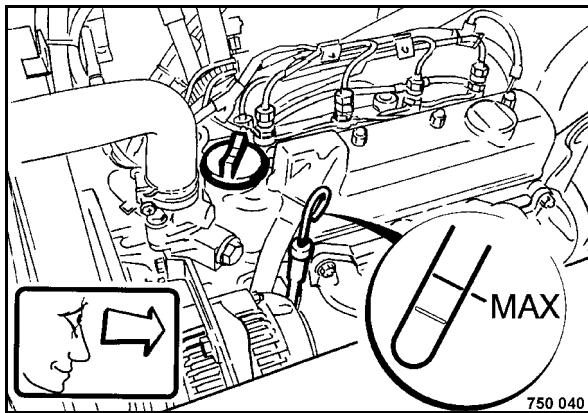

Fig. 99
- After a short test run check the oil level once again (Fig. 99), if necessary top up to the top mark (MAX).